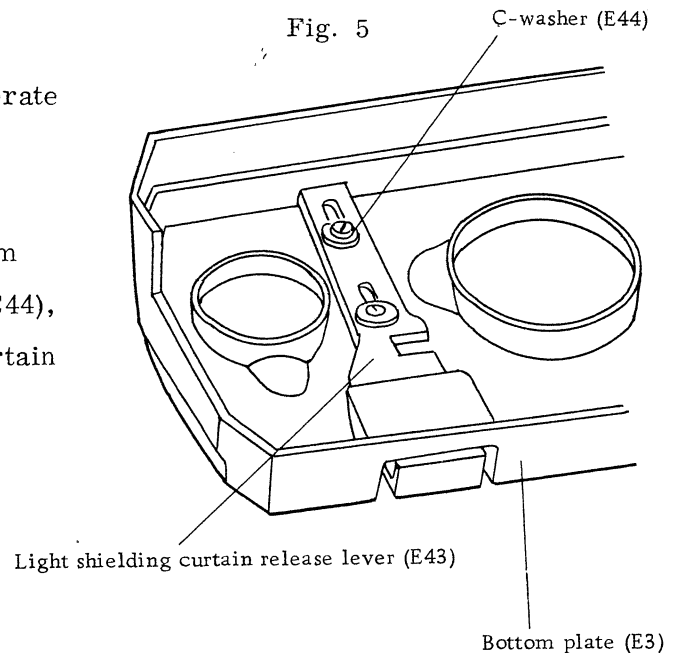

Fig. 6
- c. When the light shielding curtain release lever (E43) does not operate lightly, inspect and repair in accordance with the following instructions. Remove the bottom plate (E3) and two C-washers (E44), and check the light shielding curtain release lever for flatness. Replace, if defective. (Fig. 6)